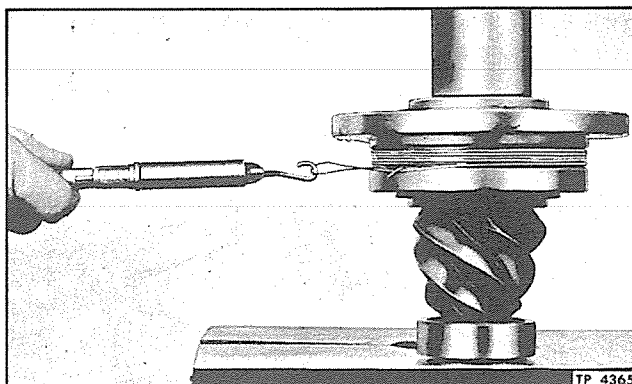

Figure 1—Checking Drive Pinion Bearing Pre-Load Adjustment (Tool No. J-544A)
(Fig. 1 - Page 52)
1. If pinion bearing cups (30 and 27) were removed during disassembly, press bearing cups firmly against pinion bearing cage (29) shoulders.
2. Position pinion bearing (26) on drive pinion (25), with widest part of bearing cone toward gear teeth, then press bearing on pinion until bearing cone seats solidly against drive pinion teeth.
3. Position drive pinion inner bearing (22) on drive pinion (25), place bearing retainer (23) on bearing, then install bearing retainer screw (24). Tighten screw until pinion bearing inner race seats solidly on drive pinion shoulder.
4. Install pinion bearing spacers (28) on drive pinion, then lubricate pinion bearing cones and cups with light engine oil.
5. Insert drive pinion and bearing assembly (25) into pinion cage (29); then, using an arbor press, press outer pinion bearing (31) firmly against bearing spacers (28). Rotate bearing cage through several complete revolutions to assure normal bearing contact.
6. While assembly is still in press under pressure, check drive pinion bearing pre-load. Wrap soft wire around pinion bearing cage (29) as shown in figure 1. Attach pound scale to wire, then pull on scale, keeping scale in a horizontal plane. Note scale reading when assembly is rotating freely. Reading should be from 12 to 18 inch pounds. To compute inch-pound value of scale reading, multiply scale reading (pounds) by one-half pinion cage diameter (inches). If reading
DRIVE PINION INSTALLATION (Fig. 1 - page 52)
DIFFERENTIAL CASE ASSEMBLY (Fig. 1 - page 52)
DIFFERENTIAL AND DRIVE GEAR INSTALLATION (Fig. 1 - page 52)
DIFFERENTIAL BEARING PRELOAD ADJUSTMENT (Fig. 1 - page 52)
DIFFERENTIAL CARRIER INSTALLATION (Fig. 1 - page 52)